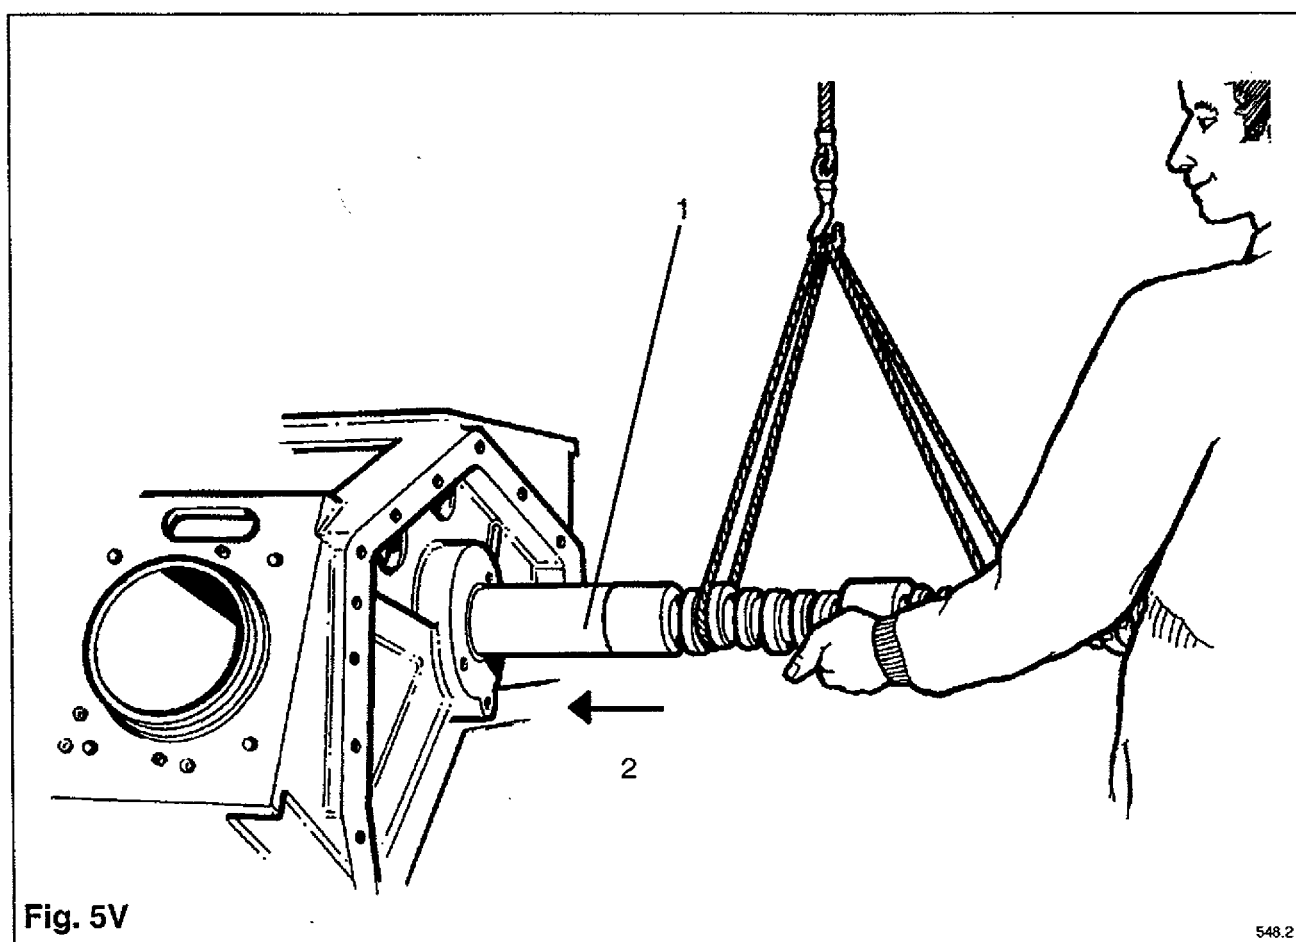

Fig. 5V
Ensure that the camshaft bearings are clean and undamaged. If the existing bearings are being re-used, ensure that they have not been disturbed from their original locations. Insert the camshaft guide tube (1) **T6253/142** into the crankcase at the flywheel end (2) of the engine. Using a rope sling, lift the camshaft into position and locate the front end of the camshaft in the guide tube spigot. Whilst supporting the camshaft, push it into the engine, ensuring that the camshaft is not pulled out of the guide tube (see **Fig. 5V**). When the camshaft is in the correct position in the bearings, remove the guide tube from the gear end of the engine.